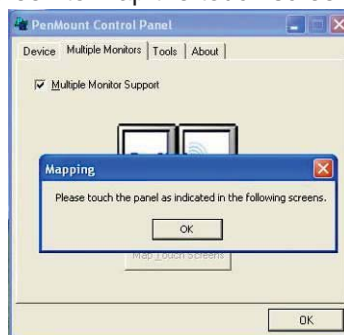

Fig.19
Step 2: When the mapping screen message appears, click "OK". (Fig.19)